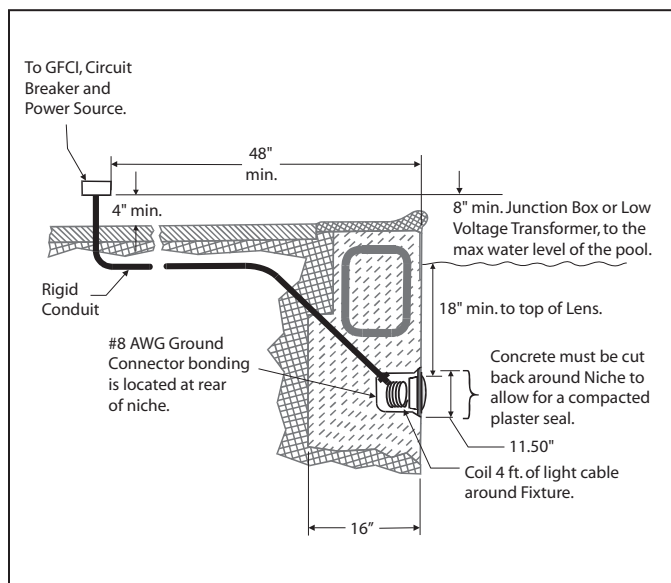

Figure 1. Jandy Digital Color Light Installation
NOTE The electrician must complete preparatory steps before light fixture is installed. See Figure 1.
2. The junction box (or, for 12 volt models, the low voltage transformer) must be located at least eight (8) inches above water level, at least four (4) inches above ground level, and at least four (4) feet from the edge of the pool; see Figure 1.
3. The light fixture and all metal items within five (5) feet of the pool must be properly electrically bonded to a reliable point of grounding.
4. The wet niche must be properly installed so that the top edge of the underwater light's lens is at least 18 inches below the surface of the water in the pool; see Figure 1.
5. The wet niche must be properly electrically bonded and grounded via the No. 8 AWG ground connector located at the rear of the niche; see Figure 1.
1. Feed cord through conduit to junction box, leaving at least four (4) feet of cord at the light fixture to coil into the base of the light niche. See Figure 1. The four (4) feet of cord allows the light to be serviced after the pool is filled with water.
2. Cut the cord at the junction box, leaving at least six (6) inches of cord to make connections.
3. Strip six (6) inches of the outer cord jacket to expose the three insulated wires. *Be careful not to damage the insulation on the three (3) inner wires.*
4. Install strain relief over cord jacket and connect all three (3) wires to the corresponding circuit wires in the junction box. Install the junction box cover.
2. The junction box (or, for 12 volt models, the low voltage transformer) must be located at least eight (8) inches above water level, at least four (4) inches above ground level or pool deck level, and at least 48 inches from the edge of the pool or spa; see Figure 1.
4. The wet niche must be properly installed so that the top edge of the underwater light's lens is at least 18 inches below the surface of the water in the pool. See Figure 1.
- The wet niche must be properly electrically bonded and grounded via the No. 8 AWG ground connector located at the rear of the niche. See Figure 1.
- Leave at least four (4) feet of cord to coil around the light fixture or coiled into the base of the light niche. See Figure 1. This allows the light to be serviced after the pool is filled with water.
- Cut the cord at the Junction Box, leaving at least six (6) inches of cord to make connections.
- Strip six (6) inches of the outer cord jacket from the cord to expose the three insulated wires. *Be careful not to damage the insulation on the three (3) inner wires.*